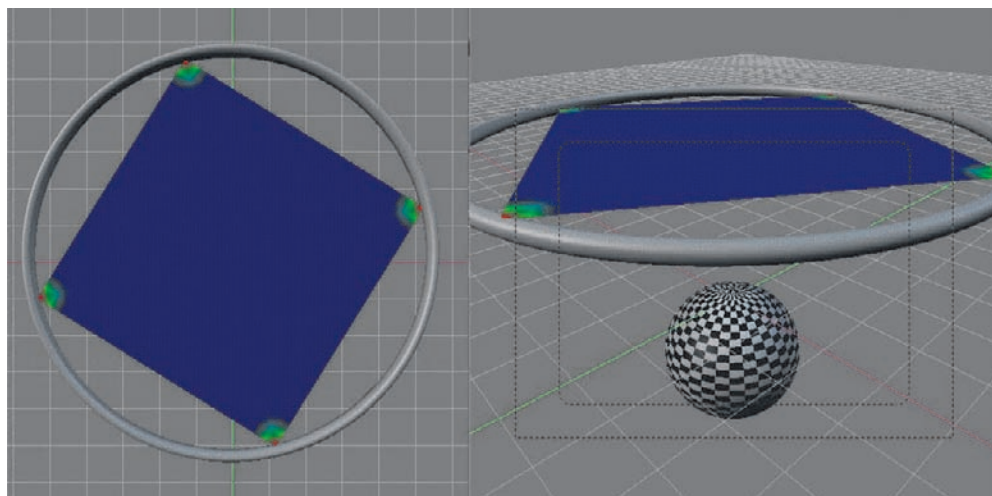

Figure 3.42 Setting up the stretched rubber example
1. First, I added a plane, pressed the W key, and selected Subdivide Multi with a value of 18. I added a Subsurf modifier and activated Set Smooth, and extruded the corner vertices without moving them to sharpen the corners. Do this by selecting the outermost edges of the plane, pressing Shift+E, and drawing the mouse away from the pivot point to crease the corners. I created a vertex group called SoftGoal and assigned the corner vertices to this vertex group with a value of 1. Then I entered Object mode and added a UV sphere with the default values for segments and rings. I added one more object, a torus, and modeled a hoop around the plane and parented the plane to the hoop. I translated the hoop upward along the Z axis. The full setup, including weight painting, is shown in Figure 3.42.